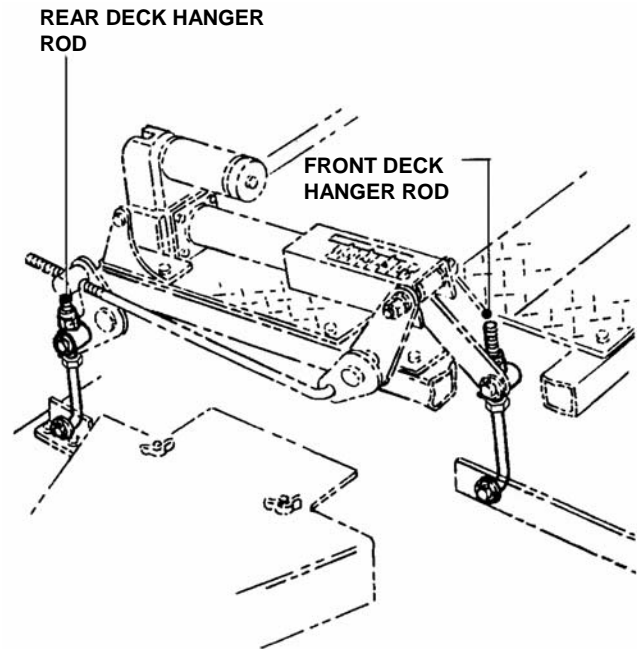

FIGURE 12
STEP 19: Level deck from side-to-side by adjusting the Deck Hanger Rods up or down as required. See Figure 12.